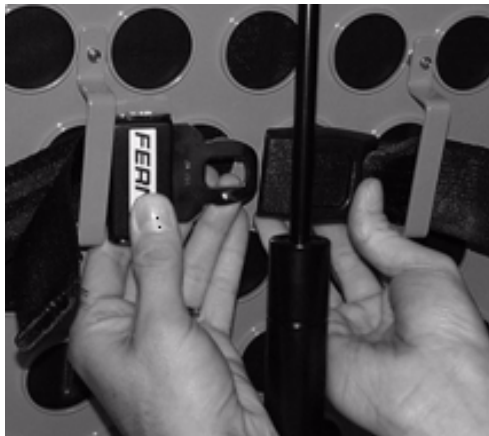

Figure 51
4. Wrap the straps around the backrest and insert the ends of the straps through the brackets. Securely fasten the buckle (see Figure 51).